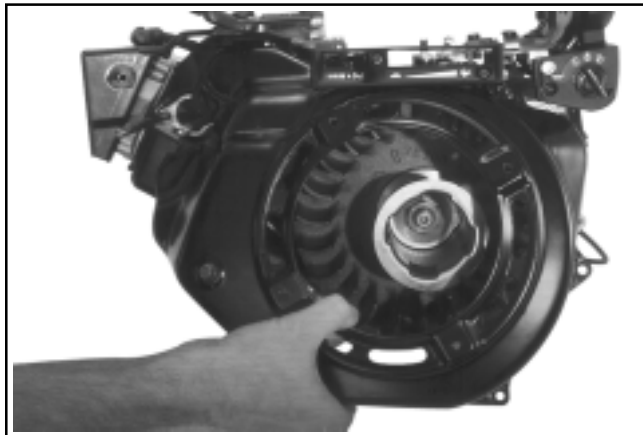

Figure 11-96. Installing Blower Housing.
1. Install the blower housing behind the throttle link and dampening spring. Start all the hex. flange screws. On CS4 and CS6 engines, secure the ground lead with the silver screw in the upper right hand location. See Figures 11-96, 11-97, and 11-98. Torque the screws to **7 N·m (62 in. lb.)**.